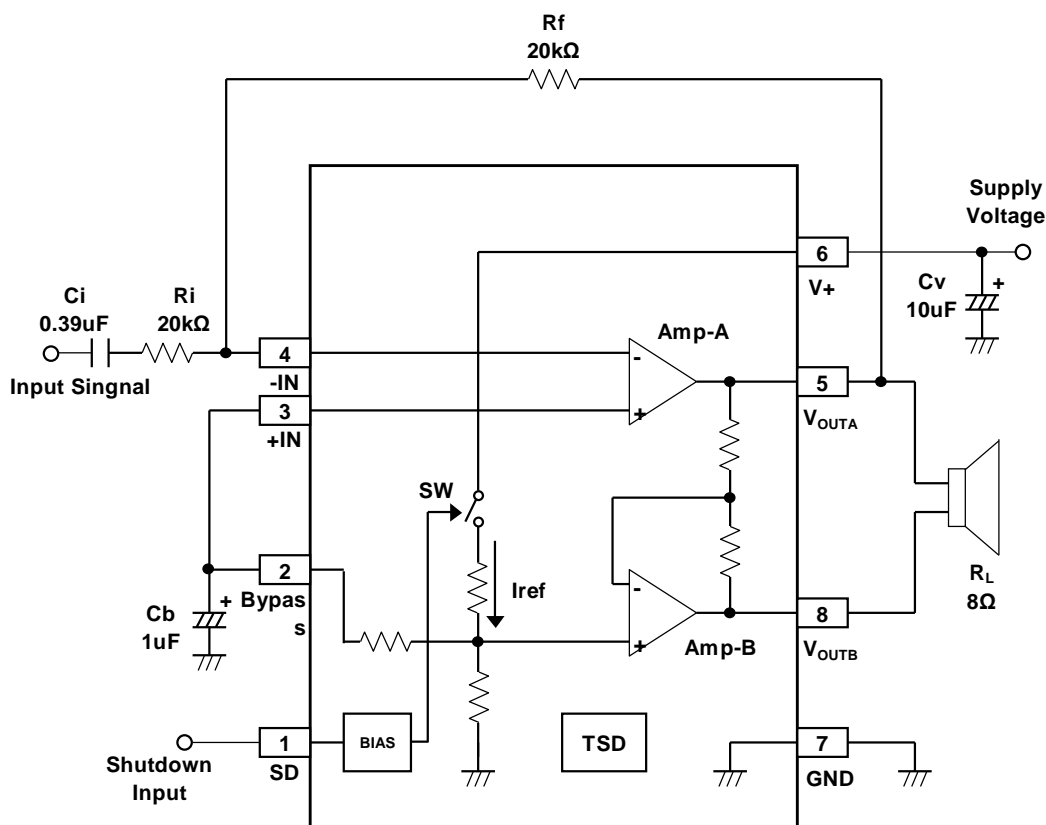

Fig1. Block diagram and Application circuit
Fig.1 shows the NJU7089 internal circuit. It comprises of two power amps (Amp-A, Amp-B), a bias circuit, and a thermal shutdown[TSD] circuit. Pin 4 and Pin 3 are the inverting and noninverting terminal to Amp-A. A reference voltage is provided at Pin 2, which should be connected to Pin 3. Pin 5 is the output terminal to Amp-A. A second operational amplifier, Amp-A is configured with a fixed gain of $A_v=-1$ and produces the inverted signal of Pin5. The NJU7089 outputs at Pin 5 and Pin 8 produce a bridged configuration output to which a speaker can be connected. Twice the output voltage and four times output power in a bridged amplifier are possible as compared to a single-ended amplifier. When a SD mode is active, the internal switch(SW) turns off to stop an internal bias current. As a result, a SD mode reduces the supply current. The external capacitor (C_b) and Internal resistance eliminate disturbing pop noise during the SD mode ON/OFF. (Ref. Page 3) The external capacitor (C_b) value depends on the turn-on time. (Ref. Page 7)